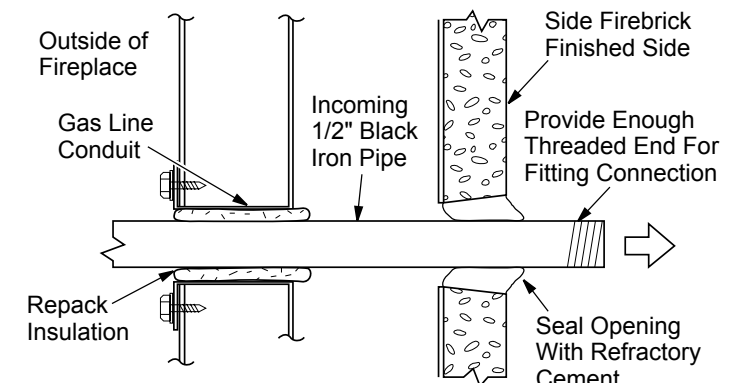

Figure 14 - Running Gas Line
3. Run gas line into the fireplace through the rear at 111/4" from the floor and through gas line conduit sleeve (if using a raised platform, add height). Provide sufficient gas line into fireplace chamber for fitting connection (see Figure 14).